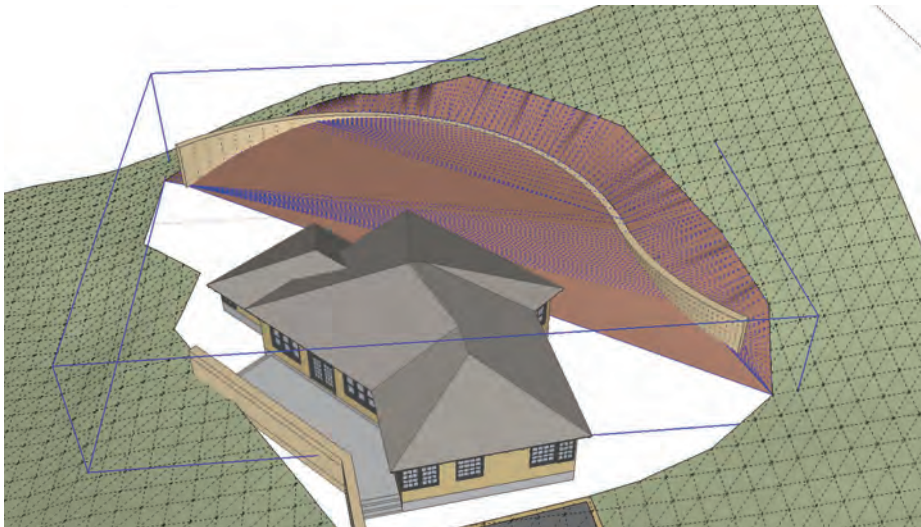

Fig. 15-24: From Contours generates the proposed grade.
2. From Contours generates the proposed grade. Edit the proposed surface, deleting the extra faces (Fig. 15-24).